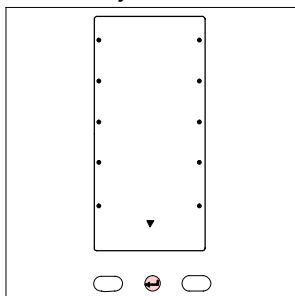

Fig. 24 General selection screen
- Press the Enter key to go to the general selection screen (fig.24 ).